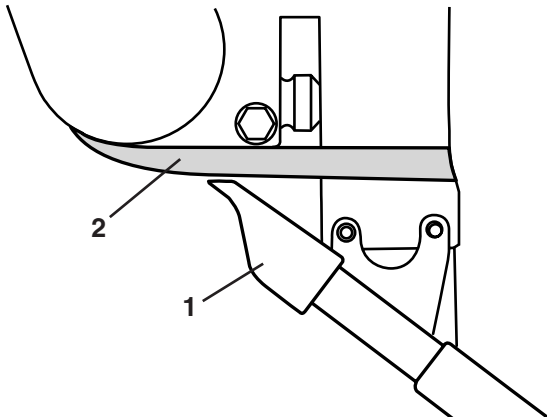

Figure 12
**Apply minimal pressure between the scraper (Figure 12, item 1) and the belt (Figure 12, item 2).**